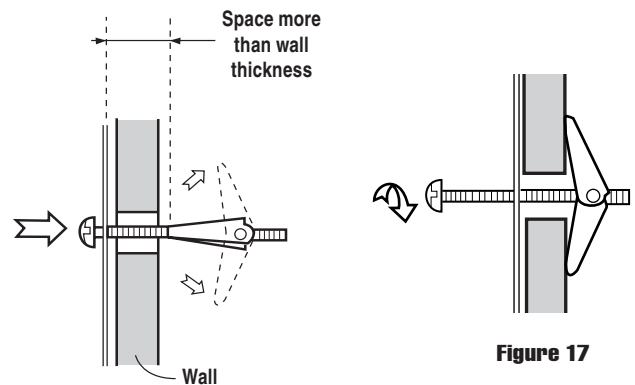

Figure 16
3. Position the Mounting Plate with the Toggle Bolts attached at the wall location and insert Toggle Nuts and Bolts through the holes in the wall with the Toggle Nuts closed. See Figure 16. Use Wood Screws to attach the Mounting Plate to studs.